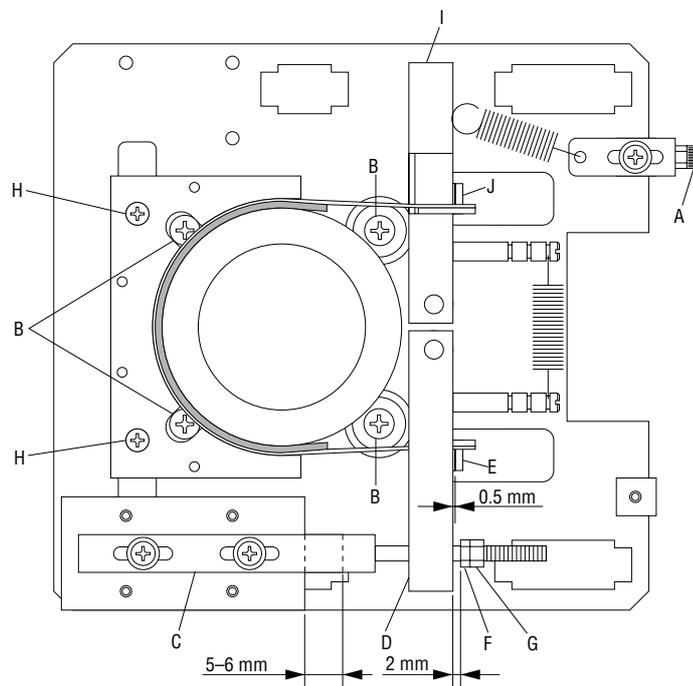

Figure 5-16
1. Loosen the screws marked “B” in **Figure 5-16** and adjust the brake assembly on the motor so that there is 0.5 mm clearance between arm “D” and stopper “E”. Securely tighten the screws.